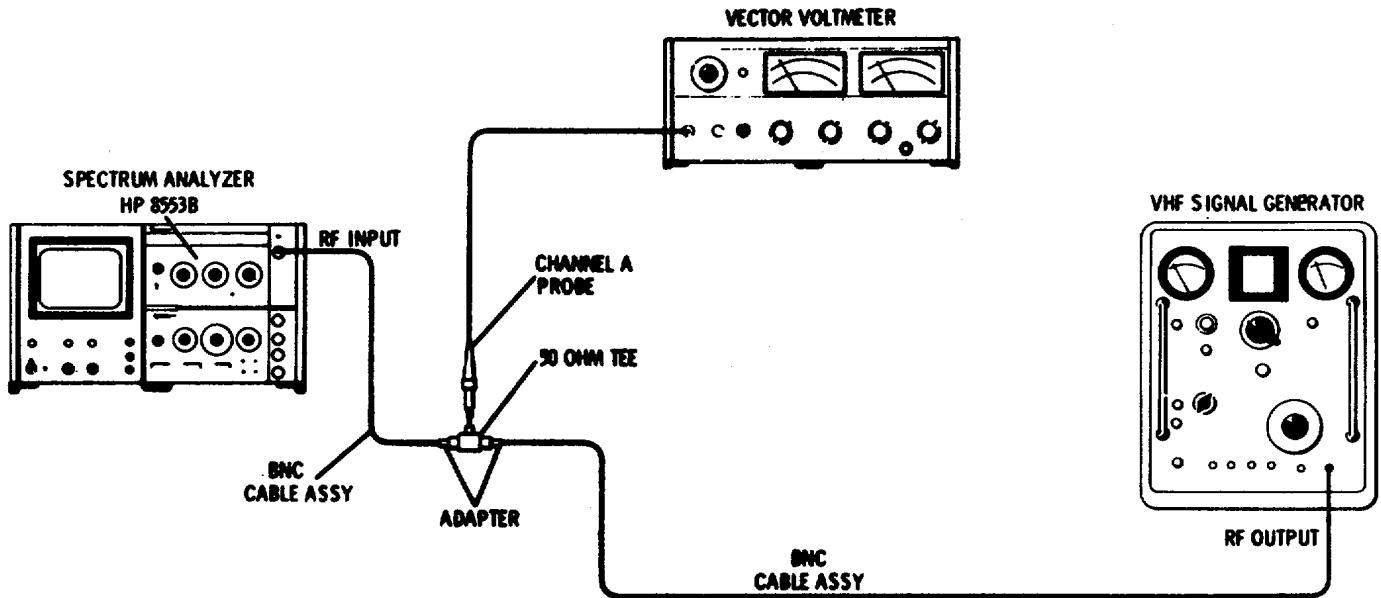

Figure 4-9. Frequency Response Test: 10 MHz to 110 MHz
1. To check the analyzer frequency response from 10 MHz to 110 MHz, connect the test setup as shown in Figure 4-9